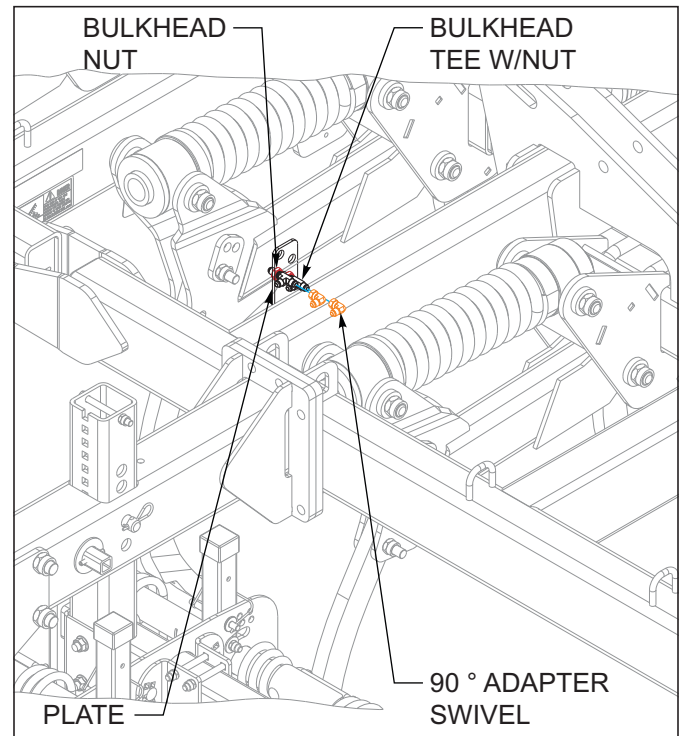

Figure 3-25: Bulk Head Fittings Installation
9. On hydraulic 3BCT/Chopper Reel option, install the bulkhead tee w/nut and 90° adapter swivel to plate on frame as shown See Figures 3-25.